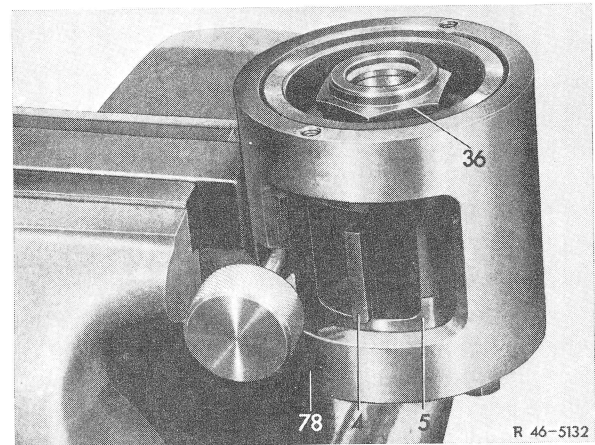

Fig. 13
13 Screw slot nut (39) on screw cover (36) into working piston (5) and tighten slightly (Fig. 13 and 14).